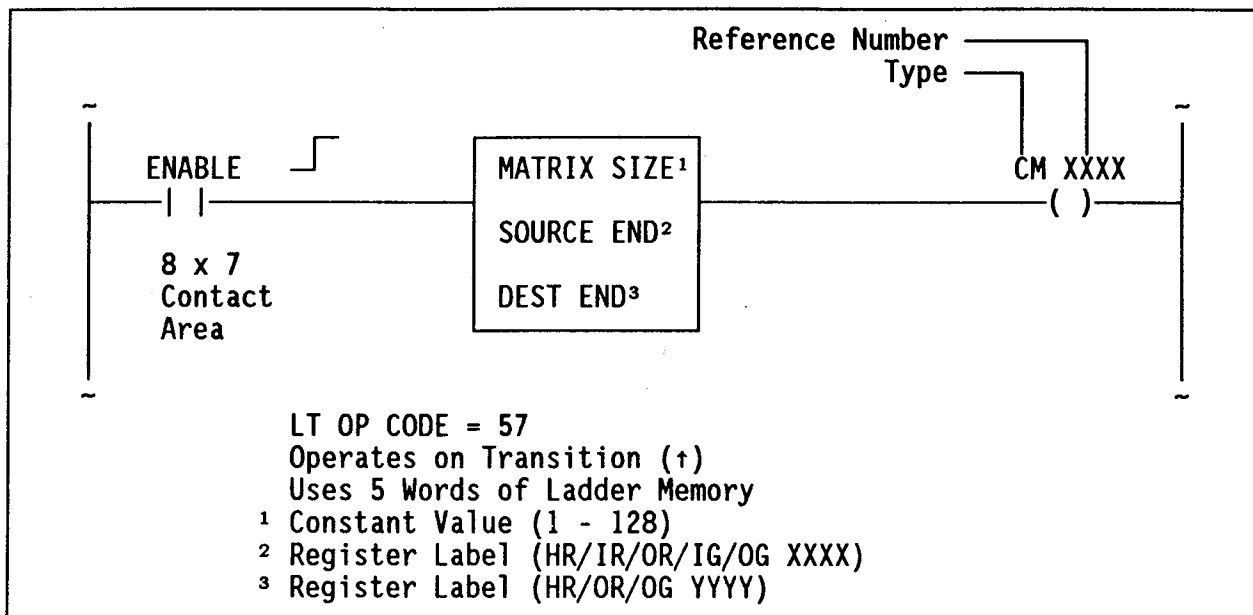

Figure 1. Complement Matrix (CM)
The Complement Matrix (CM) function causes the bit states of the contents of a matrix to reverse; all zeroes become one's and all one's become zeroes. The result is placed in the destination location. CM function symbology is shown in Figure 1.